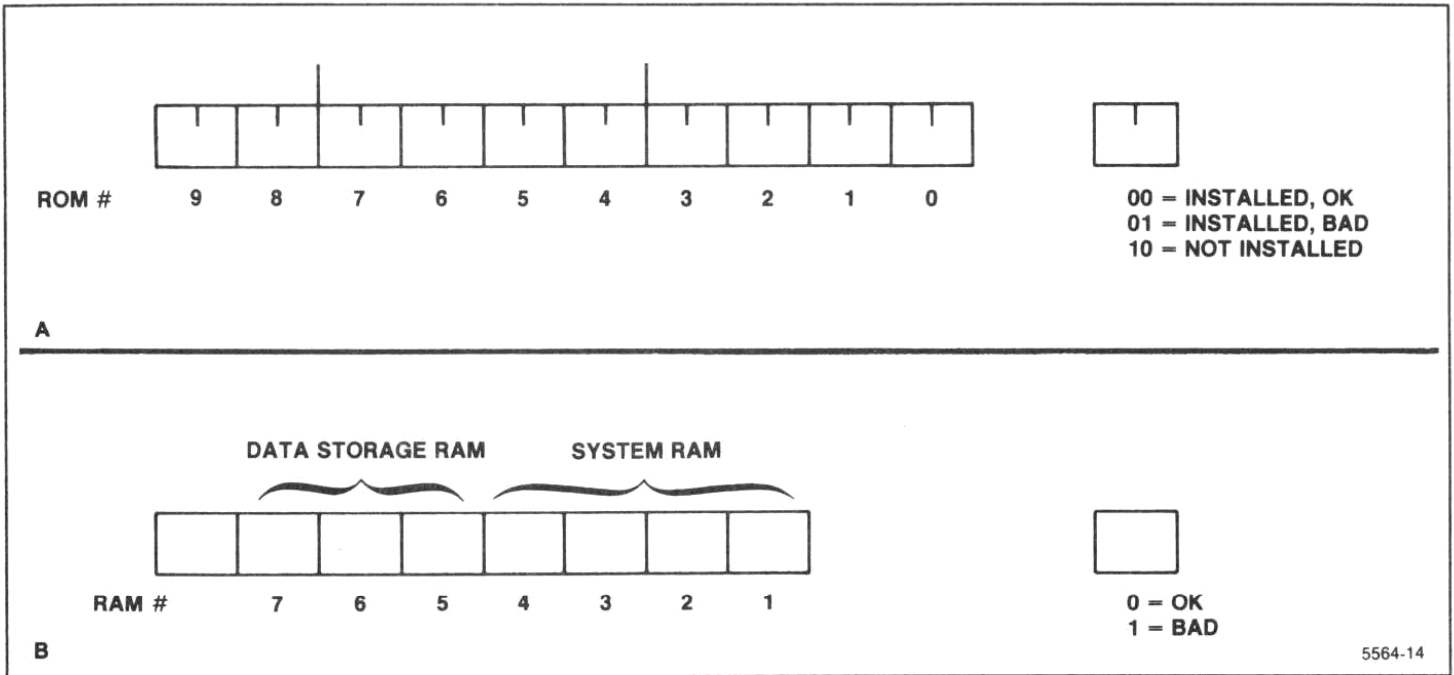

Figure 9-1. TEST Conversion Chart.
The TEST query response consists of two decimal numbers that indicate if a ROM or RAM IC was found to be defective. These numbers must be translated to their binary equivalents to determine the ROM and RAM locations. (If all ROM and RAM are good, the TEST query response will be ROM:0, RAM:0.) After the binary numbers are determined, put them into the conversion chart in Figure 9-1 to identify the IC number. Then, use Table 9-3 to find the correct circuit number and circuit board. The following example shows how to use the conversion chart and Table 9-3. If any ROM or RAM ICs are indicated to be bad, refer this information to qualified service personnel.
2. Insert this binary number in part A of Figure 9-1 (right-justified). Blocks 6 and 2 will be 0. This indicates that both ROM 6 and ROM 2 are bad; all other ROMs are good.
2. Insert this binary number in part B of Figure 9-1 (right-justified). Blocks 4 and 2 each contain a 1, which indicates that both RAMs 4 and 2 are bad; all other RAMs are good.